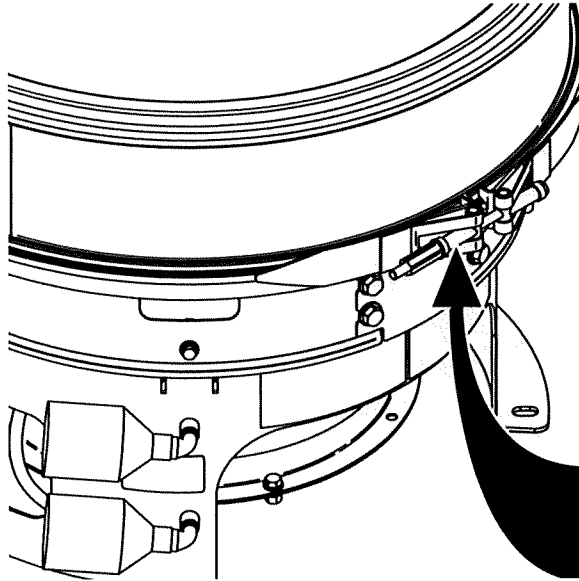

Figure 8 Clamp Band Tension Adjuster (Arrowed)
- b. Wrap clamp band around frame and the top of the drive assembly (Refer to Figure 8).